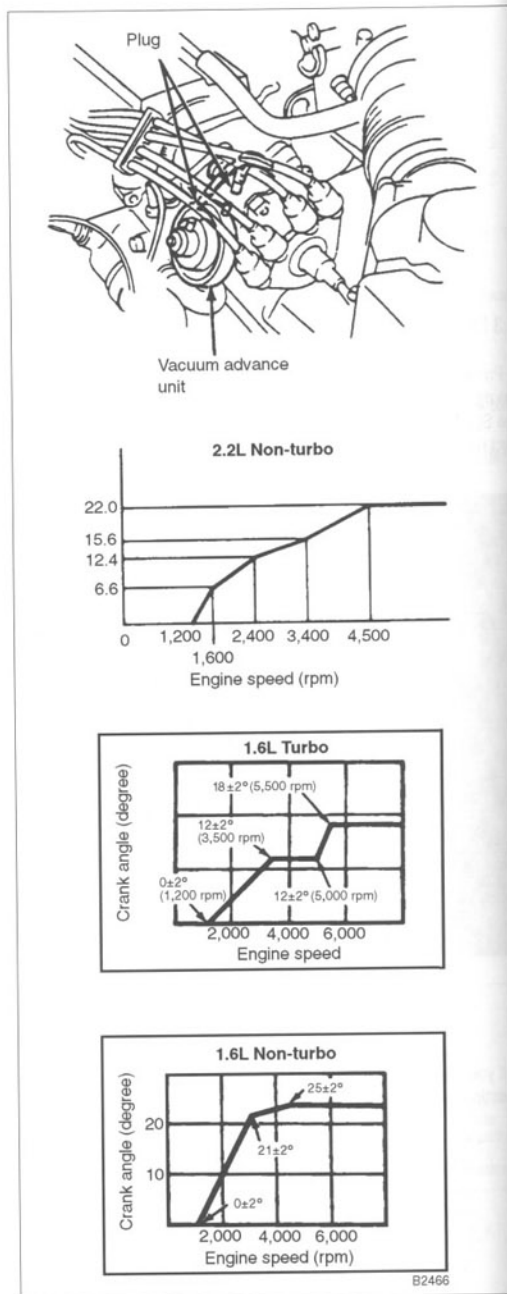

Fig. 4-6. Check centrifugal advance.
3. Check centrifugal advance. Slowly advance rpm and note timing per Fig. 4-6.